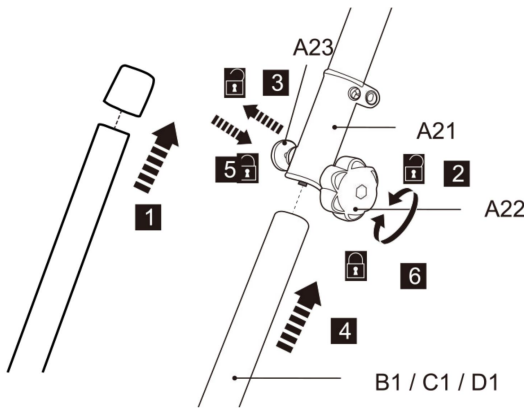

Fig. 3
2. Remove the pre-attached protection cap from the lower pole(B1/ C1/D1) (Fig.3,step 1) .
3. Loosen the locking knob(A 22),but don't fully remove e(Fig.3,step 2).
4. Align and insert the lower pole(B 1/C 1/D 1) into the locking sleeve (A 21) , while pulling the spring bolt(A 23) (Fig.3,step 3 and 4) .
5. Slightly twist the lower pole to align the hole with the spring bolt (A23) . Release the spring bolt afterward to secure the lower pole in position.Ensure the spring bolt snaps in the hole(Fig.3, step 5) .
6. Tighten the locking knob(A 22) to secure the connection(Fig.3, step 6) .